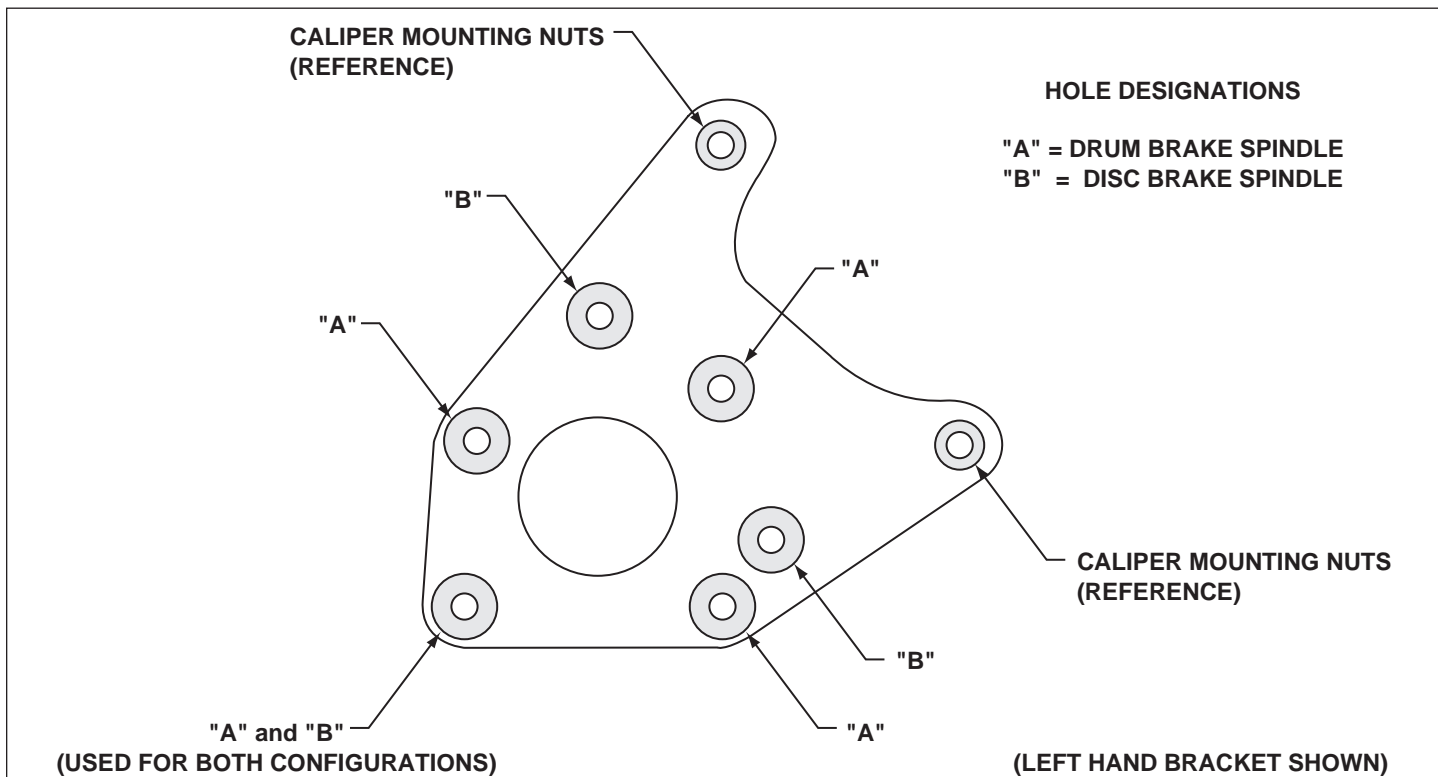
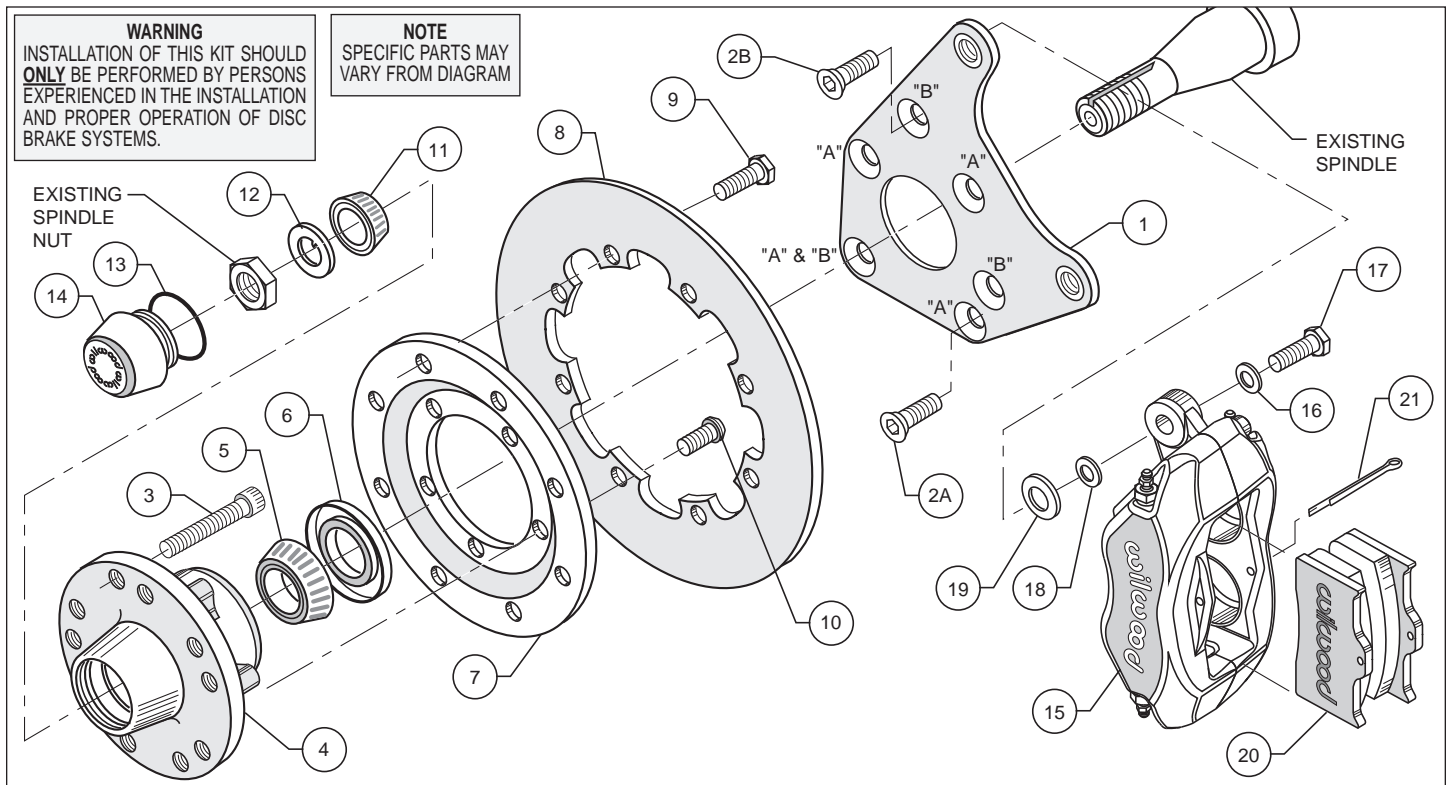
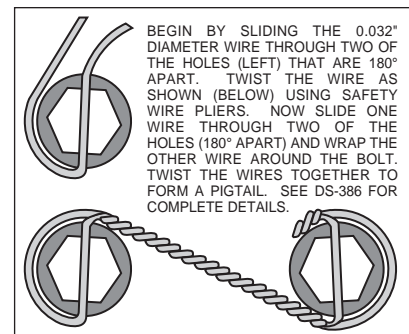
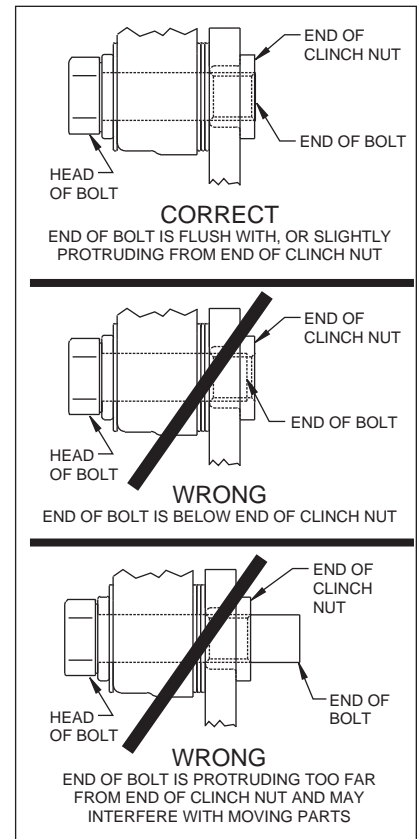

Figure 1. Wilwood Caliper Mounting Bracket
Figure 2. Typical Installation Configuration
Figure 4. Safety Wire Diagram
Figure 5.
This kit has been designed for use with both the disc brake or the drum brake configuration of vehicle. The only difference is in how the Wilwood caliper mounting bracket is installed. The same bracket is used for both configurations; the disc brake version utilizes three mounting holes while the drum brake application uses four mounting holes (see Figure 1). For your convenience we have supplied bolt kits for both applications (see parts list and Figure 2 as necessary, item(s) 2A and 2B). Use the bolt kit that is applicable to your vehicle and disregard the other one.
These modifications should be performed by a qualified machinist and completed before assembly of the Wilwood disc brake kit begins. Using the caliper mounting bracket as a template (refer to figure 1 as necessary), locate and verify the three original stock holes on the steering arm that need to be modified. Drill a .332 diameter hole through all three holes, then tap 3/8-24 UNF (fine thread). Countersink the holes to .438 x 90°.
- As mentioned before, this kit uses the same mounting bracket (1) for both the drum and disc brake spindle. The drum version utilizes four mounting bolts (designated with a "A"), while the disc only requires three (designated with a "B"). Refer to figure 1 and figure 2 as required for the basic installation position of the bracket and the "A" and "B" reference designations (these designations are not physically marked on the bracket, they are referenced on the drawings for your convenience) and align using the three or four holes (as applicable) to the face plate of the steering arm. Install bolts (2A or 2B) through caliper mounting bracket (1) into steering arm, finger tighten only. After you are positive of the bracket (1) alignment, remove the mounting bolts (2A or 2B) one at a time and Apply red *Loctite*® 271 to bolt threads (2A or 2B), then reinstall. Torque bolts (2A or 2B) to 30 ft-lb. **NOTE:** Be sure the heads of the bracket (1) insert nuts are facing outward toward the wheel.
- Install wheel studs (3) into the hub (4). Torque to 77 ft-lb. **NOTE:** There are two (2) five lug patterns in the hub (5 x 4.50 and 5 x 4.75). Make sure of the correct hole pattern for the correct wheel application before installing studs into hub.
- Pack the large inner bearing cone (5) with high temperature disc brake bearing grease (available from your local auto parts store) and install into the backside of the hub (4).
- Install the grease seal (6) by pressing into the backside of the hub (4).
- Attach rotor adapter plate (7) to rotor (8) using bolts (9). Using an alternating sequence, apply red *Loctite*® 271 to the threads and torque bolts to 25 ft-lb. For an added measure of security, the bolts may be safety wired using standard 0.032 inch diameter stainless steel safety wire as shown in Figure 4. Please refer to Wilwood's data sheet DS-386 (available at www.wilwood.com/Pdf/DataSheets/ds386.pdf) for complete safety wire installation instructions. **NOTE:** Dished side of adapter plate (7) should face hub (4). The machined tab side of the iron rotor (8) should face the adapter plate (7).
- Mount the adapter/rotor assembly (7/8) to the hub (4) using bolts (10) (finger tight), as shown in Figure 1. Using an alternating sequence, remove bolts one at a time, apply red *Loctite*® 271 to the threads, and torque to 45 ft-lb.
- Pack the small outer bearing cone (11) with high temperature disc brake bearing grease and install into front of hub (4). Slide the hub/rotor assembly (4 and 8) with outer bearing cone (11) onto the spindle. Secure using spindle washer (12), stock adjusting nut and nut locking device. Adjust bearings per Original Equipment Manufacturer (OEM) specifications.
- Install the o-ring (13) and then the dust cap (14) onto the hub (4). Friction created by the o-ring (13) on the dust cap (14) keeps it from unscrewing.
- NOTE:** Please reference the caution statement at the beginning of the assembly instructions. Mount the caliper (15) onto the caliper bracket (1) using washers (16) and bolts (17). Place two spacer washers (19) between the caliper (15) and the caliper mounting bracket (1) before sliding the mounting bolts (17) all the way into the caliper mounting bracket (1), finger tighten only. View the rotor (8) through the top opening of the caliper (15). The rotor (8) should be aligned in the center of the caliper (15). If not, adjust the caliper (15) by using 0.032 inch thick shims (18) placed between the caliper (15) and the caliper spacer washer (19). Finger tighten and recheck alignment. Use as many shim washers (18) as necessary to achieve the correct alignment. Add as many shim washers (18) as necessary to achieve the correct alignment. **NOTE:** The end of the bolt must be flush with or slightly protruding from the head of the clinch nut. See Figure 5. Place spare shims (18) between washer and caliper mounting ear to achieve the proper mounting fastener configuration. Always use the same amount of shims on both the top and bottom caliper mounting bolts (17). Apply red *Loctite*® 271 to bolt threads (17) and torque to 40 ft-lb. Caliper mount bolts may be safety wired for additional security.